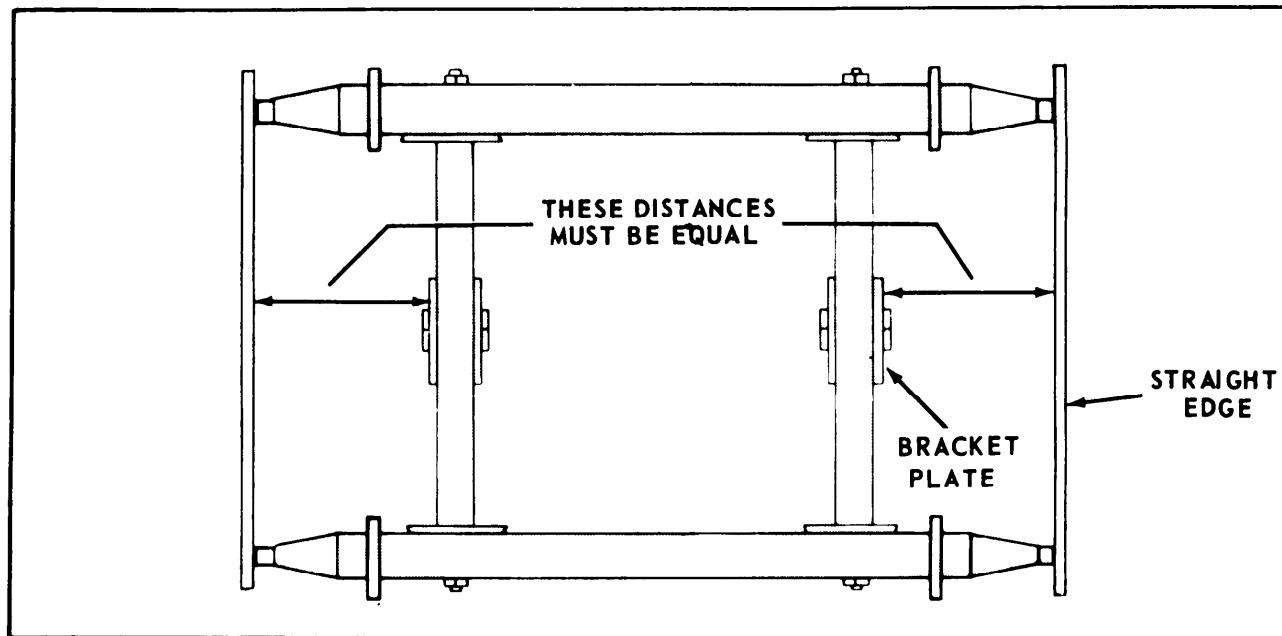

FIGURE 10-12. EQUALIZING AXLE OVERHANG.
d. Check the distance from a straightedge placed over the spindle ends to the tandem mounting bracket plate (see figure 10-12). Compare this distance with a corresponding distance on the opposite side. Move the axle in the cast retainer saddle to get these dimensions equal.